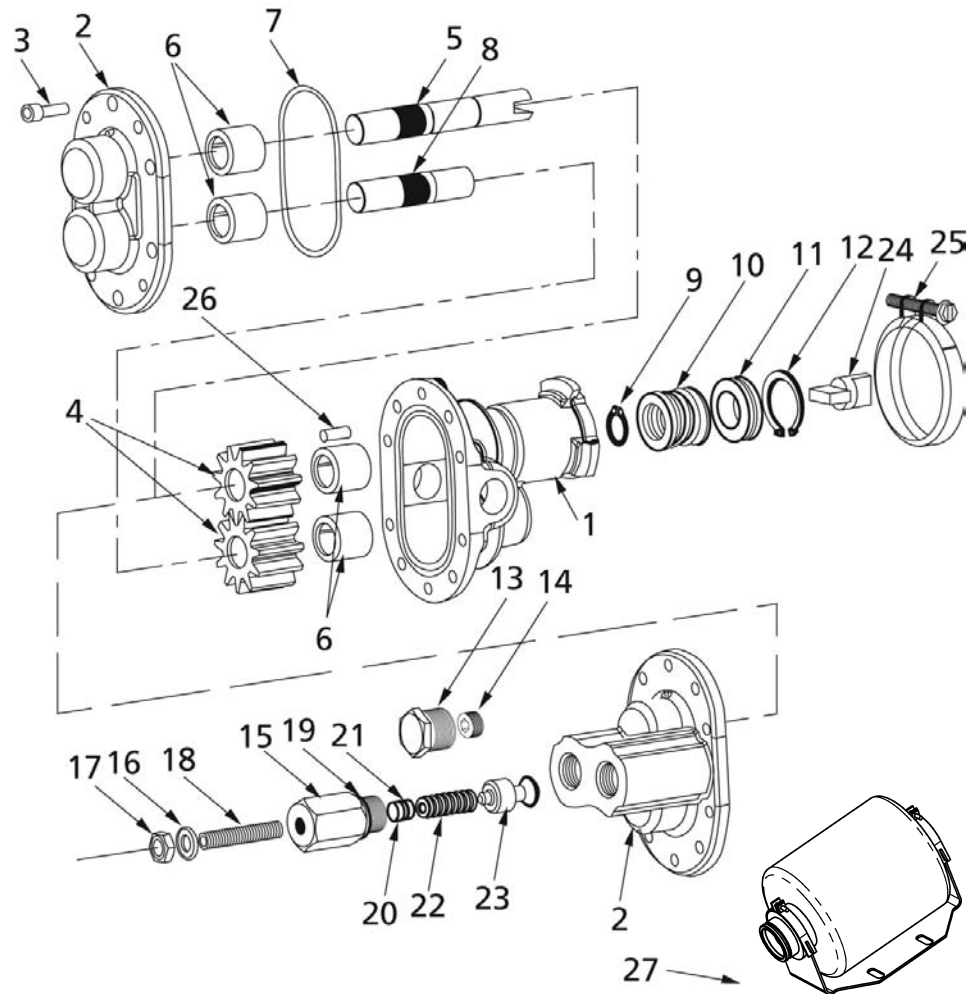

Figure 7 - Repair Parts Illustration
Refer to Figure 7 for parts identification during disassembly and assembly. [Assumes pump is separated from motor and that Oldham coupling (Ref. No. 24) is removed.]
**Relief Valve Disassembly and Assembly** (Refer to Figure 7 for parts identification.)